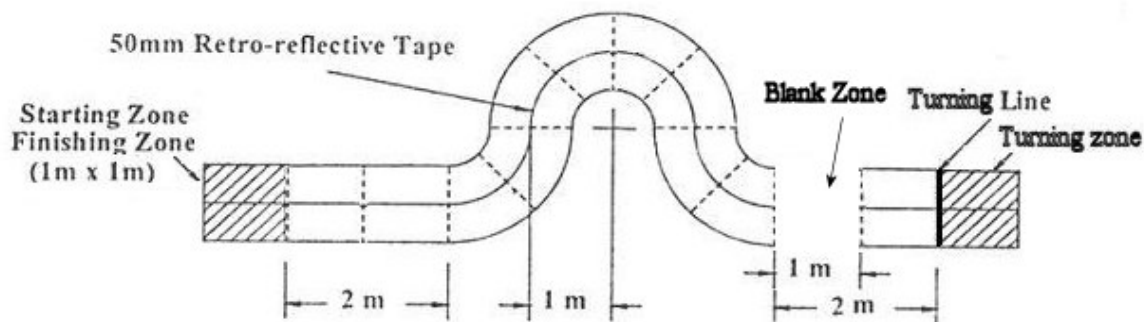

Fig.2 - Sample Legged Robot Race Track
Fig.2 shows a top view of an example of a competition race-track. It consists of a 4 straight segments (A) (excluding the Starting and Finishing Zones) and 8 circular segments (B). The 'obstacle' segments will be at different elevations of 50 mm or 100 mm off the ground. The final track layout will be decided by the judges after the caging of the robots.
- 4.3 The robot is to start from a stationary position in starting zone at one end of the track. It has to travel along the designated track either by walking, running or hopping, or any other motion not identified as wheeled motion. While walking on the track, the walking robot has to clear a blank zone (see Fig 2.) When it reaches to last square at the far end of the track, the robot has to make a 180deg turn in the turning zone and return to the starting point. The trailing edge of the robot must cross the turning line (see Fig 2) before it is allowed to make a turn. The turning line will be the same 50 millimetres wide retro-reflective tape placed before the start of the last square. To make the indication of the zones clearer, the start/finish zone and the turning zone will have a height 50mm lower than the adjacent track section. The robot is not allowed to walk back to the start point in reverse. A valid Record Time is measured from the instance any part of the robot crosses the starting line to the moment when the last part of the robot (trailing edge) crosses into the finishing zone. If any parts of the robot that drop off during a run, that run time will not be counted.